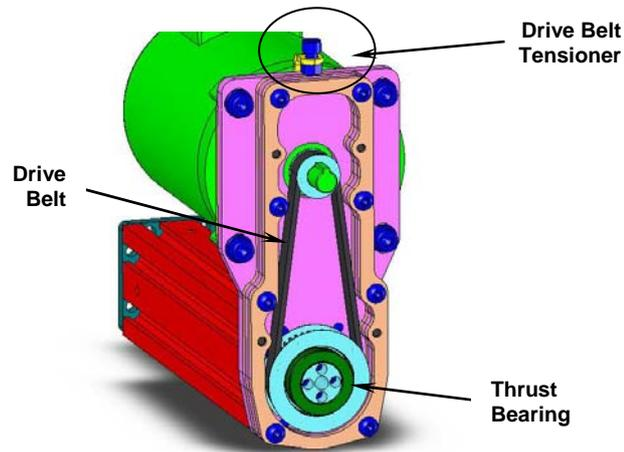

Figure 4.1 – Saw Actuator Drive Belt and Thrust Bearing
- 4) Regularly check the condition of the saw actuator unit. Ensure that the drive belt is tensioned adequately, and if necessary replace if worn out (Figure 4.1). Observe for side-to-side play or response delay in actuator which indicate worn internals. If observed, contact Reconeng for a rebuild kit.
- 6) Regularly check the condition of the actuator thrust and feeder radial bearing (Figure 4.1 and 4.3). The bearings are fully-sealed non-adjustable units. If there is any play replace bearings.